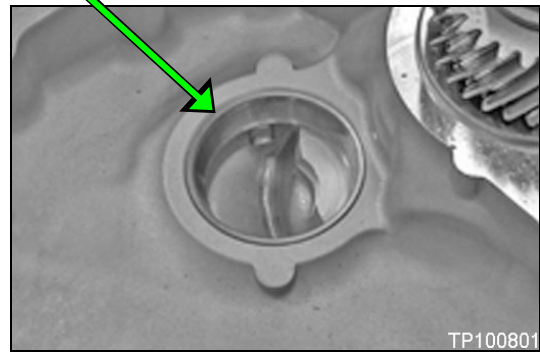

Figure 12
3. Result 2: If similar damage is found, inspect the fit of both reduction gear outer bearing races. Figure 12 shows the race in the CVT case.